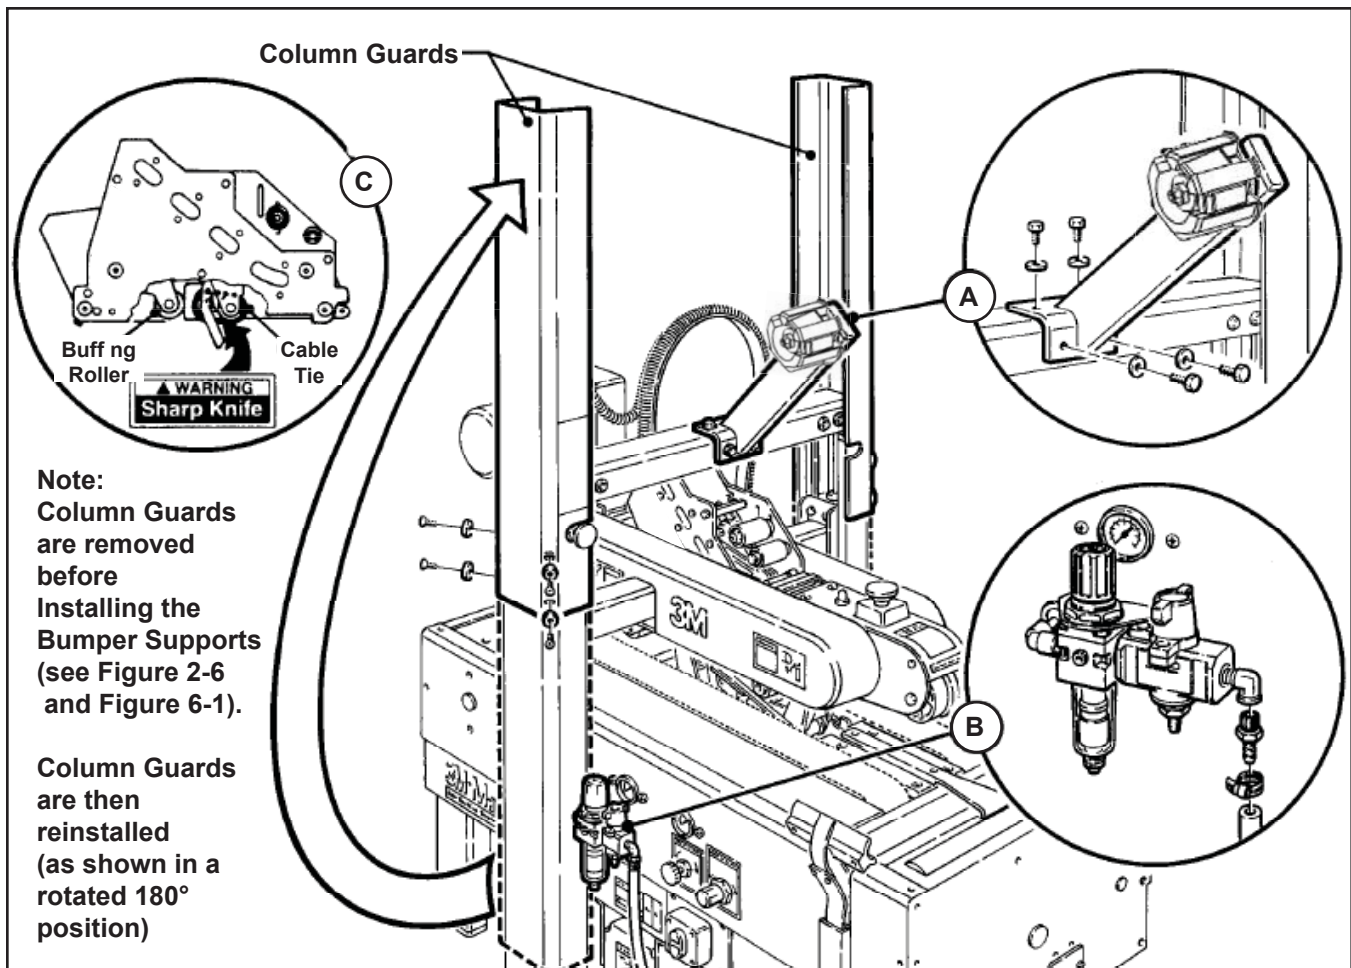

Figure 7-7 – 700r Frame Setup
2. The column guards, shown in **Figure 7-7** have been installed upside down for shipping. Remove and retain the screws and washers holding the guards on the columns for re-installation after the Bumper Supports have been mounted (see Column Bumper Installation in the Installation and Setup Section and Special Setup Procedures Section / **Figure 7-7**). After the Bumpers have been installed, the Column Guards must be repositioned (rotated 180° and re-installed - **Figure 7-7**) for safe operation of the machine. Replace existing screws and washers to secure the guards in place.
With the Safety Guard removed (see Installation and Setup / **Figure 7-7**):